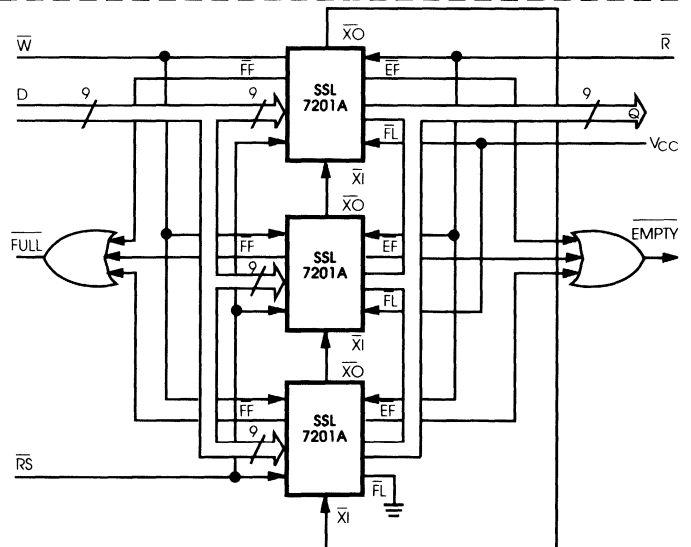

Figure 4. BLOCK DIAGRAM OF 1536 X 9 FIFO MEMORY (DEPTH EXPANSION)
If an application requires more words than a particular chosen device can provide, depth expansion is possible by connecting multiple devices of the same kind as shown in Figure 4. When the expansion mode is used, be sure the following conditions are met:
- 1) The first device must be designated by grounding the First Load (FL) control input.
- 2) All other devices must have (FL) in the HIGH state.
- 3) The Expansion Out (XO) pin of each device must be tied to the Expansion In (XI) pin of the next device as shown in Figure 4.
- 4) External logic is needed to generate a composite Full Flag (FF) and Empty Flag (EF). This requires the "ORing" of all EFs and "ORing" of all FFs.
- 5) The Retransmit (RT) function and Half-Full Flag (HF) are not available in the depth expansion mode.
¹ \bar{XI} is connected to \bar{XO} of previous device. See Figure 4.